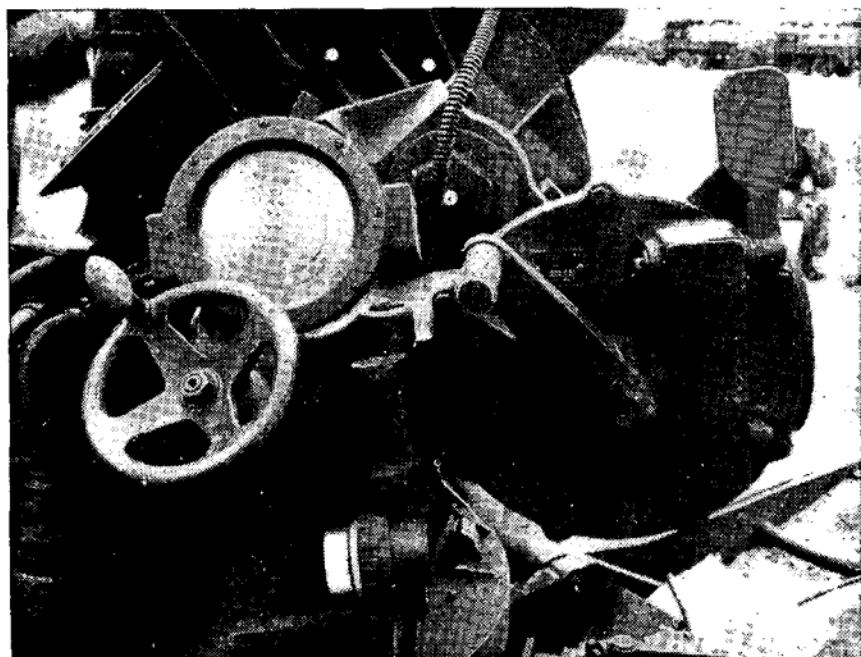
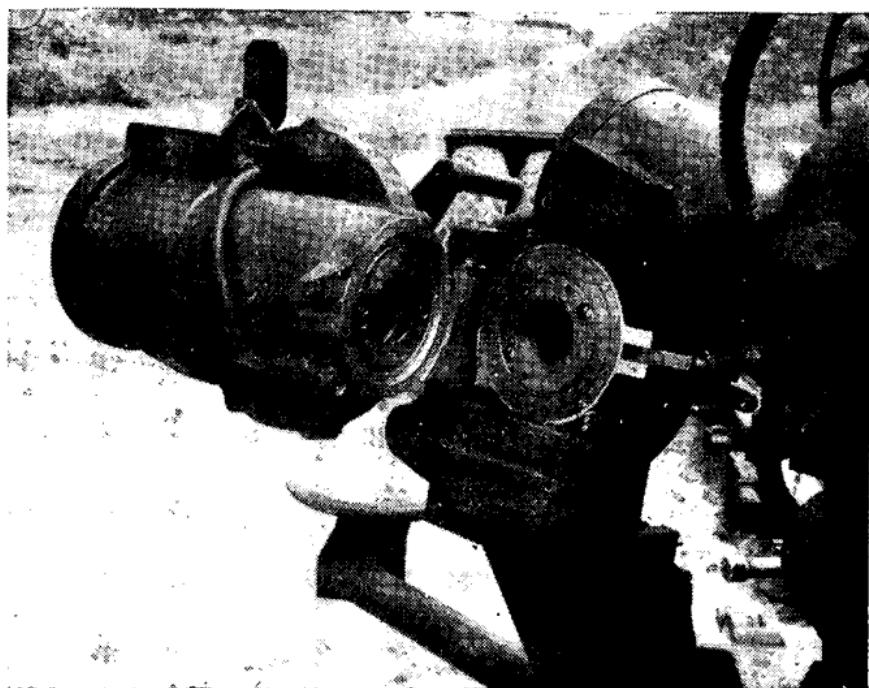

FIGURE 34.—Fuze setter M13—front view.
FIGURE 35.—Fuze setter M13—open.
■ 48. DESCRIPTION.—*a.* The fuze setter consists principally of the fuze indicator, the adjusting mechanism, and the setting mechanism. The indicator and adjusting mechanism are inclosed within the case (lower part below hinge, fig. 35) while the setting mechanism is housed within the body (upper part above hinge).
b. (1) The fuze indicator includes a fuze range scale, a mechanical index (outer pointer), an electrical index inner pointer), and a standard a-c synchronous electrical receiving unit (fig. 34).
(2) The electrical receiving unit positions the electrical index at the position on the fuze range scale corresponding to the fuze setting transmitted from the director.
c. The adjusting mechanism is that mechanism which causes the fuze to be set at the particular fuze setting desired. A handwheel (fig. 34) is geared both to the mechanical index and to the adjusting ring (fig. 35). The function of the adjusting ring is to engage and hold fast the slot in the time setting cap of the fuze on the projectile. By turning the handwheel, the mechanical index is made to indicate a particular fuze setting and the adjusting ring is revolved to such a position that its pawl will stop the time setting cap on the fuze at the same fuze setting indicated by the mechanical index.
d. The setting mechanism, driven by the setting handle (fig. 34), contains a setting ring (fig. 35) and the setting ring pawl engages the slot on the body of the fuze and turns the projectile until the fuze body is properly positioned with respect to the time setting cap of the fuze.
■ 51. ADJUSTMENTS.—*a. To change rings in fuze setter.*—Open the fuze setter as shown in figure 35, remove screws and lock washers in each ring already assembled in the fuze setter, and remove this set of rings. If the rings stick in place in the
h. Whenever the cable receptacle (fig. 34) is not connected to the gun junction box, it should be stowed on the dummy receptacle with the cable wrapped around the front of the fuze indicator.